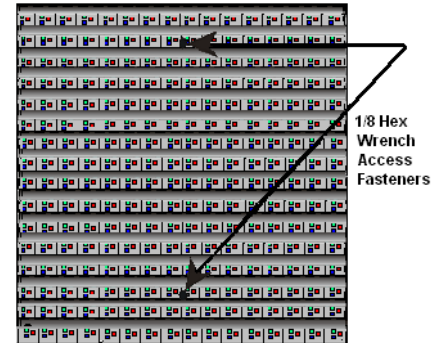

Figure 24: Module Access Locations
2. Locate the latch access fasteners on the module (**Figure 24**). One is centered below the second row of pixels and one is centered above the bottom two rows.